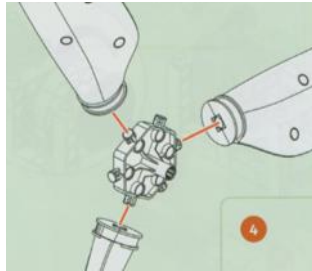

Figure 2: Blade Assembly
#### Use Figure 2 & 3 for steps 4-6.
4. Place rotor blades on the pins of the rotor hub leaving one pin between each blade, as shown in figure 2.